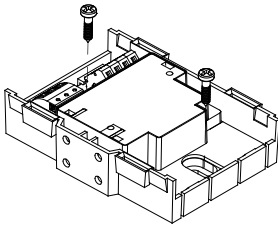

Fig. 2
- Installation directly in a switching cabinet or a control unit: mount the module on an even surface (Fig.2).
1. Position module on an even surface (Fig. 2).